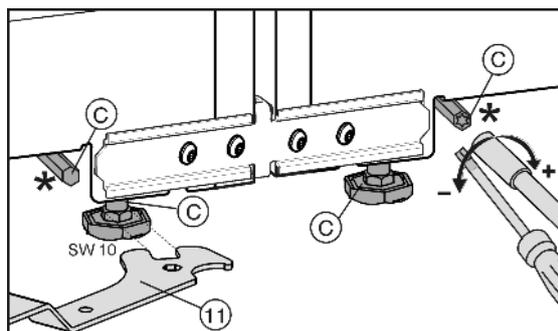

Fig. 8
You can adjust the front height-adjustable feet with the open-ended spanner *Fig. 8 (11)* included in the supply package, and the rear height-adjustable feet\* with a Torx® 25 screwdriver.